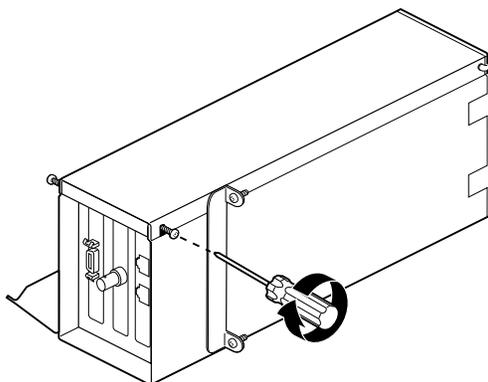

Figure 4-19 Tightening the I/O Door Screws
7. Tighten the I/O door screws, as shown in Figure 4-19.